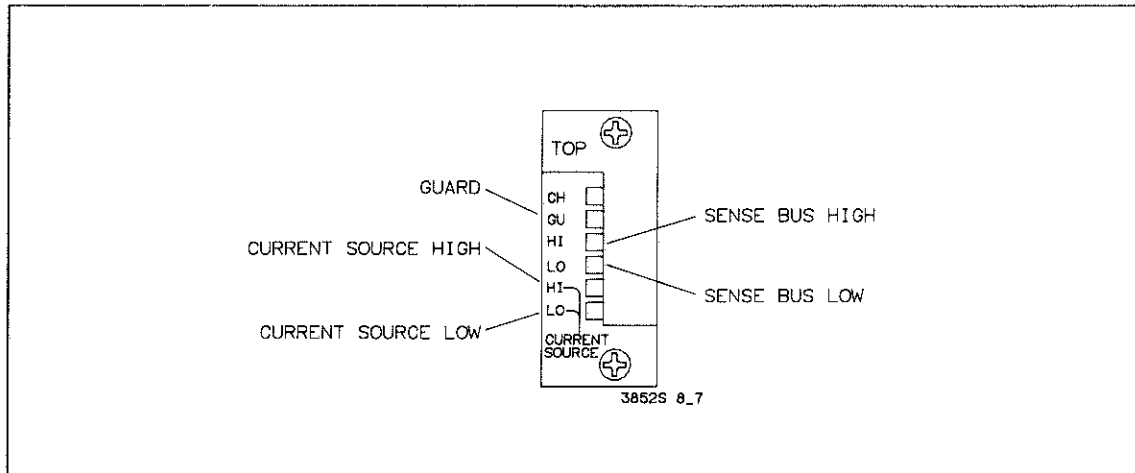

Figure 20-5 Analog Bus Connector
27. Refer to Figure 20-5. Remove the digital multimeter from the test fixture and connect its to the Analog Bus Connector. Connect the DCV input to the Analog Bus Connector's SENSE BUS HIGH terminal and the COM input to the SENSE BUS LOW terminal.